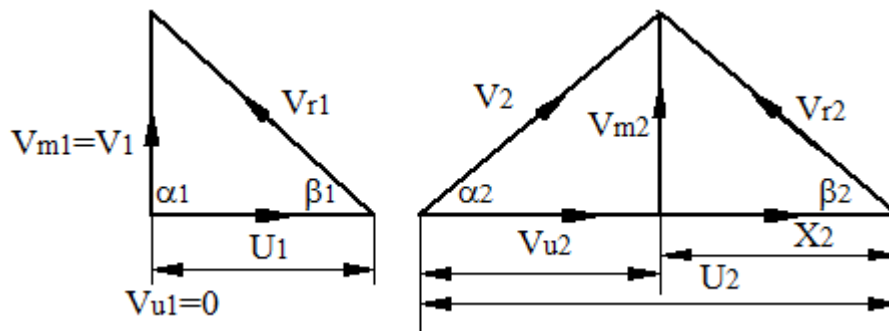

Fig. 6.5 Velocity triangles for centrifugal pump
**Answer:** The velocity diagram for centrifugal pumps and compressor with  $V_{u1} = 0$  is as shown in figure 6.5.